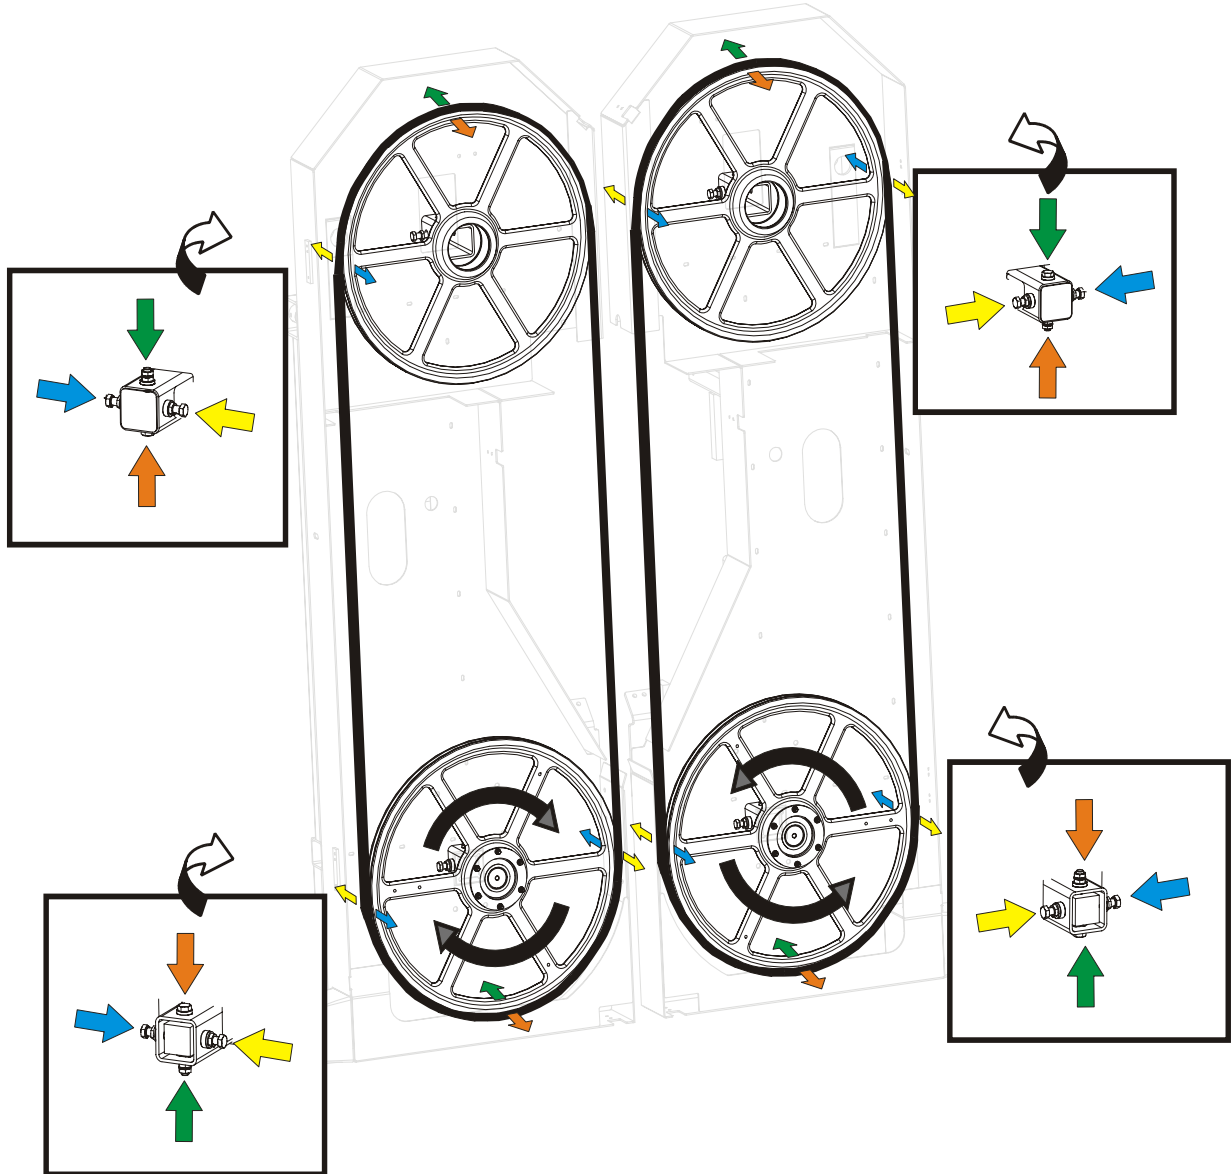

FIG. 6-17
**See Figure 6-17.** Arrows show which bolts should be used to tilt the wheels in required